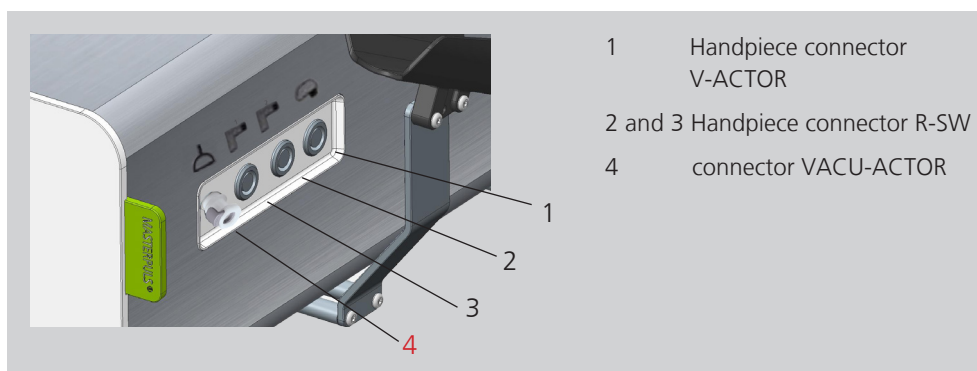

Fig. 3-8 Connectors of the Handpieces and VACU-ACTOR
- Insert the coupling of the shorter hose part into the connection clutch on the right side of the MP200 (Fig. 3-8 / 4).